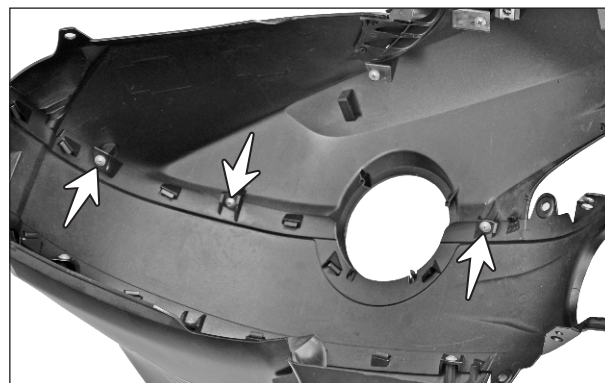

Fig. 2.18
- Remove the CRR flanged pan head tap screw (ST4.2x13 - 3 nos.) from the mounting of cover fuel tank outer R. (Fig. 2.18)